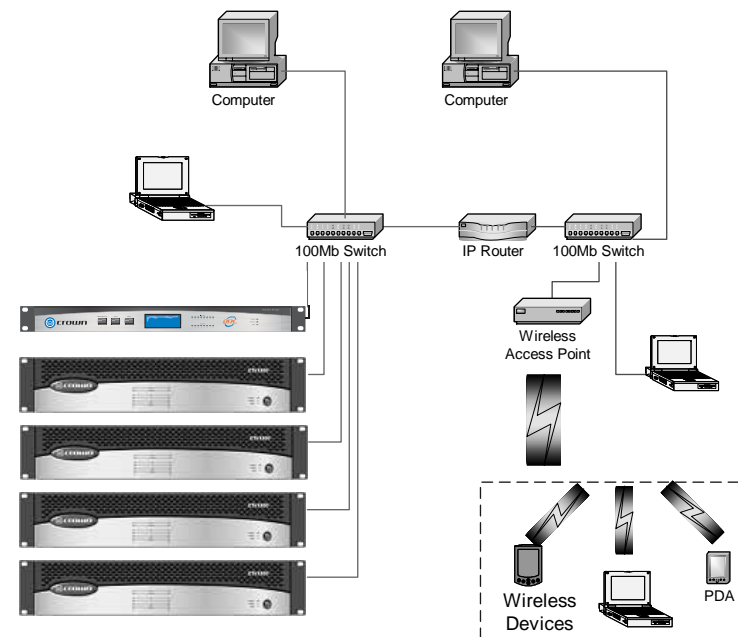

Figure 8.2 Multiple Network Communication Via an IP Router
Internet Protocol (IP) Address: The IP address of a component is assigned during the setup of the network and identifies the IQ component to a larger audience. Because the MAC address is limited to a single physical LAN, communications between LANs is impossible solely through the use of the MAC address. The IP address allows components and controllers on other networks to communicate with each other through the use of an IP Router as shown in Figure 8.2.